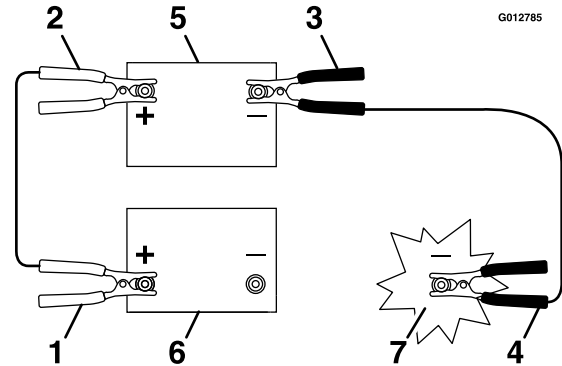

Figure 77
3. Connect the positive (+) cable clamp (red) to the positive (+) terminal of the discharged battery (Figure 77).